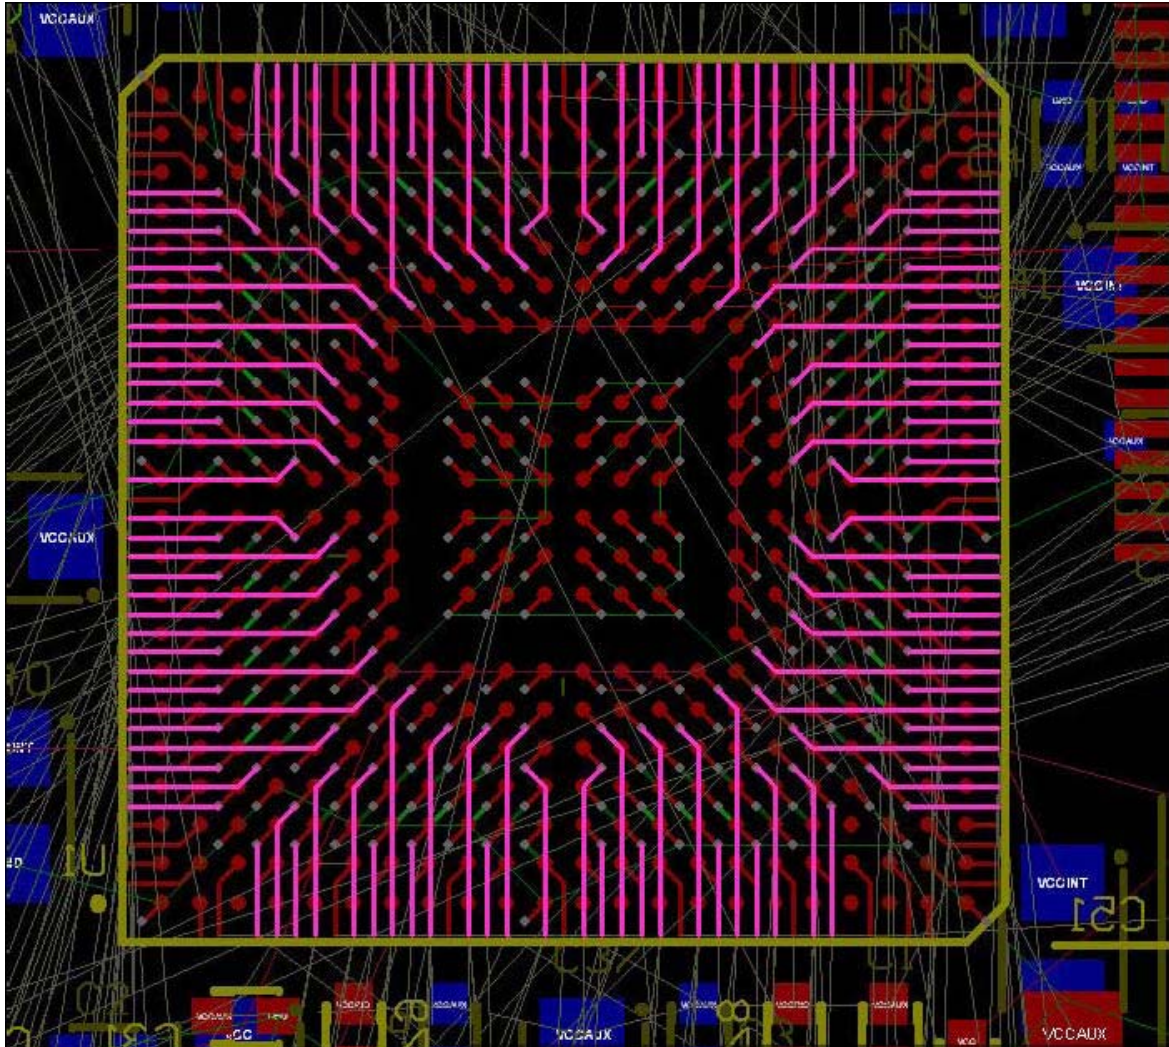

Figure 21. Note how the escape route feature presents each connected pad as an accessible route outside the edge of the BGA.
- Figure 21 shows the escape routing from a 1mm pad pitch BGA. Used inner pads are first fanned out using the traditional dog-bone (a short route with a via on the end) to access another layer, and then from the via they are escape routed out just beyond the edge of the device, working through the available routing layers until all pads have been escape routed.